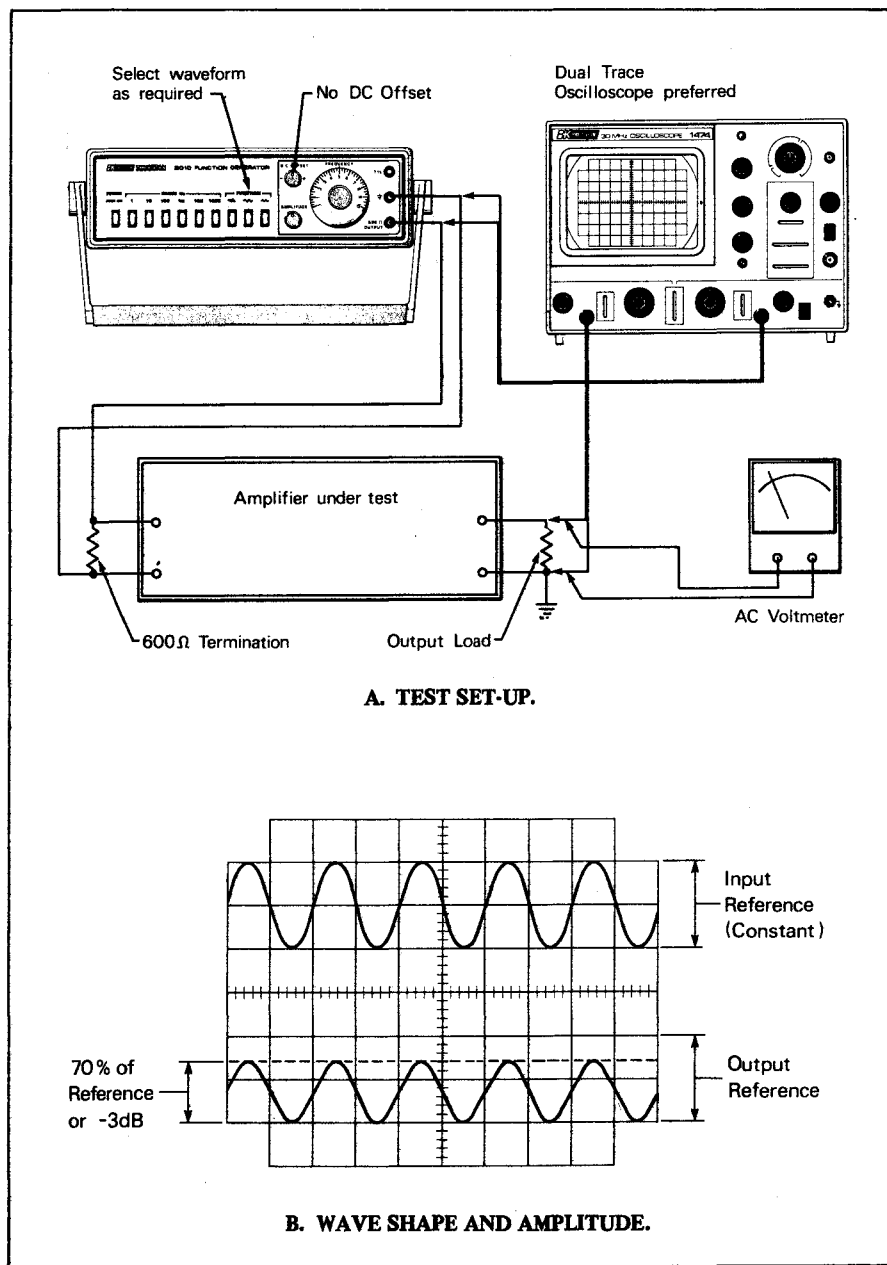

Fig. 5. Amplifier frequency response, manual frequency change.
A. AMPLIFIER FREQUENCY RESPONSE (See Fig. 5)